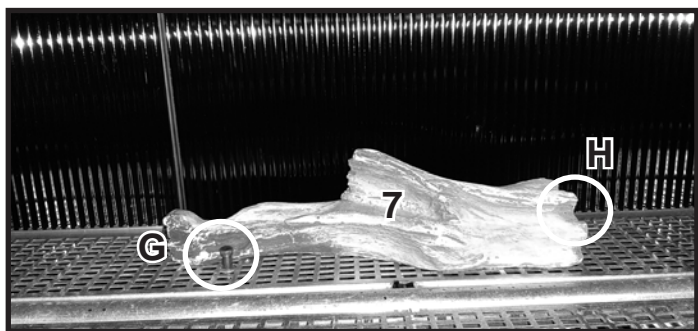

Figure 5 Install Log #7
**Log #7:** Place the right side of Log #7 against the right log pin (H). Pivot the left side toward the burner until it contacts log pin (G). See Figure 5.